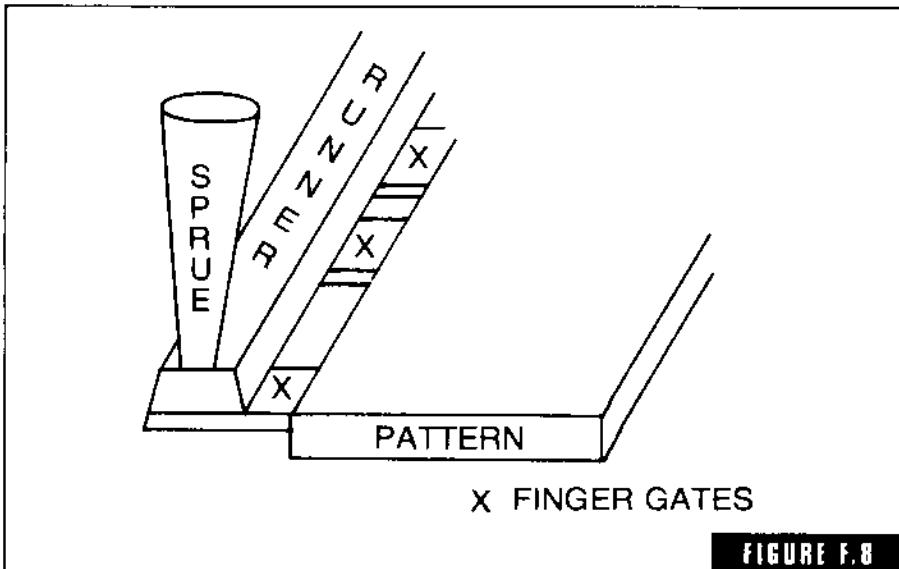

FIGURE F.8
**finger gates** Multiple gates into a casting from a single runner (Fig. F-8).